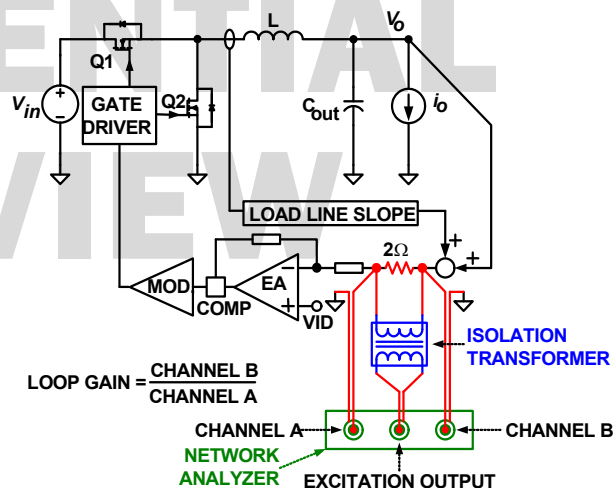
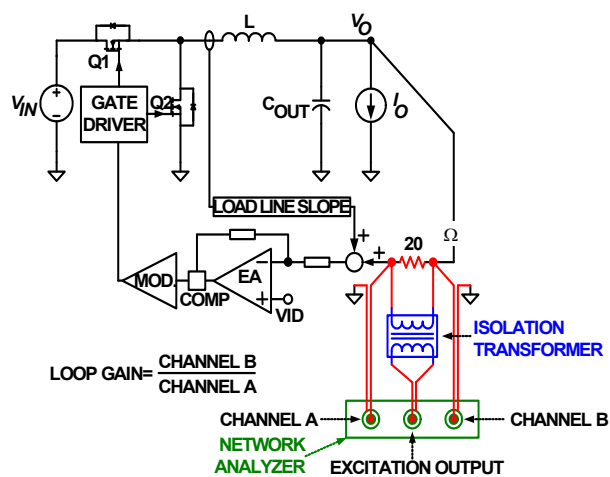

FIGURE 23. LOOP GAIN T1(s) MEASUREMENT SET-UP
FIGURE 24. LOOP GAIN T2(s) MEASUREMENT SET-UP
T2(s), that describe the entire system. Figure 23 conceptually shows T1(s) measurement set-up and Figure 24 conceptually shows T2(s) measurement set-up. The VR senses the inductor current, multiplies it by a gain of the load line slope, then adds it on top of the sensed output voltage and feeds it to the compensator. T(1) is measured after the summing node, and T2(s) is measured in the voltage loop before the summing node. The spreadsheet gives both T1(s) and T2(s) plots. However, only T2(s) can be actually measured on an ISL95836 regulator.